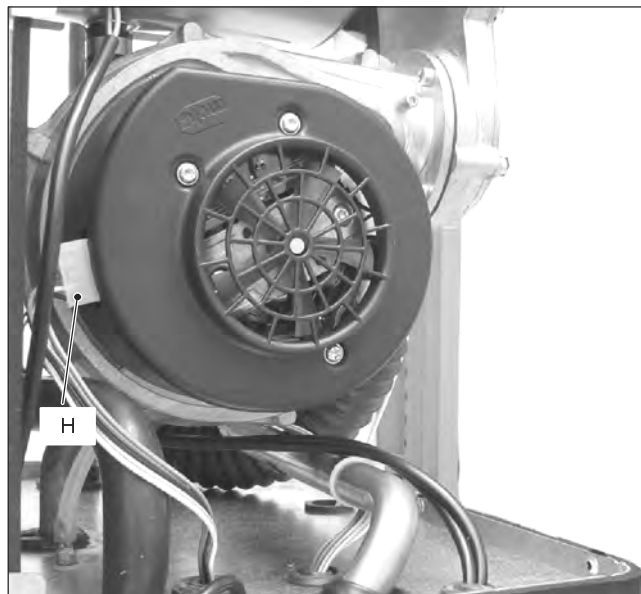

Fig. 17.3
- 7 Disconnect the fan connector H by pressing the plastic hook placed on the rear side of the connector (Fig. 17.3).